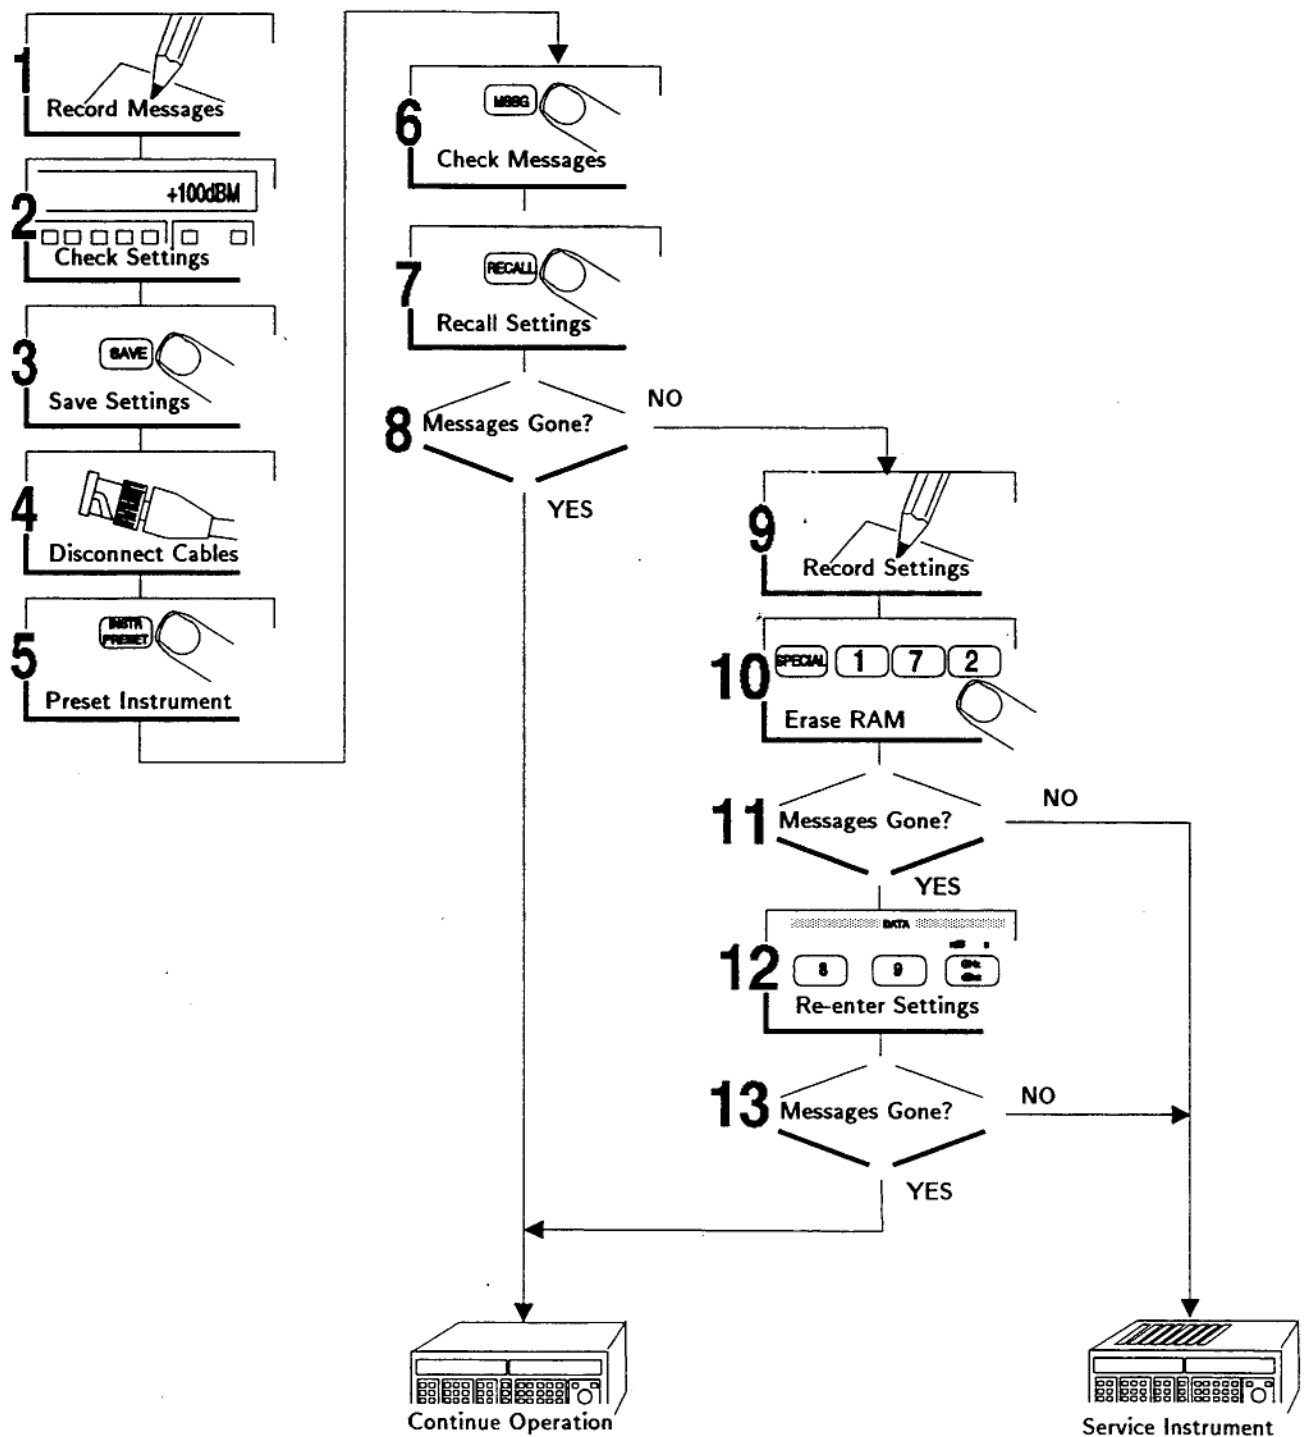

Figure 7-1. Corrective Action for Error Messages
Hardware Failure 1	A communications discriminator failure has been detected at power up, or detected as a result of a self-calibration or self-test. Refer to figure 7-1 for corrective action.
Hardware Failure 2	A VCO failure has been detected at power up, or detected as a result of a self-calibration or self-test. Refer to figure 7-1 for corrective action.
Hardware Failure 3	A Fractional-N failure has been detected at power up, or detected as a result of a self-calibration or self-test. Refer to figure 7-1 for corrective action.
Hardware Failure 4	A modulation distribution failure has been detected at power up, or detected as a result of a self-calibration or self-test. Refer to figure 7-1 for corrective action.
Hardware Failure 5	An ALC failure has been detected at power up, or detected as a result of a self-calibration or self-test. Refer to figure 7-1 for corrective action.
Hardware Failure 6	An attenuator failure has been detected at power up, or detected as a result of a self-calibration or self-test. Refer to figure 7-1 for corrective action.
Hardware Failure 7	An audio source failure has been detected at power up, or detected as a result of a self-calibration or self-test. Refer to figure 7-1 for corrective action.
Hardware Failure 8	A reference failure has been detected at power up, or detected as a result of a self-calibration or self-test. Refer to figure 7-1 for corrective action.
Hardware Failure 9	A doubler failure has been detected at power up, or detected as a result of a self-calibration or self-test. Refer to figure 7-1 for corrective action.
Hardware Failure 13	A front panel failure has been detected at power up, or detected as a result of a self-calibration or self-test. Refer to figure 7-1 for corrective action.
Hardware Failure 14	A power supply failure has been detected at power up, or detected as a result of a self-calibration or self-test. Refer to figure 7-1 for corrective action.
Hardware Failure 15	An I/O board failure has been detected at power up, or detected as a result of a self-calibration or self-test. Refer to figure 7-1 for corrective action.
Hardware Failure 16	A controller failure has been detected at power up, or detected as a result of a self-calibration or self-test. Refer to figure 7-1 for corrective action.
Hardware Failure 18	A frequency counter failure has been detected at power up. Refer to figure 7-1 for corrective action. Unit should have option 011. If unit was turned off for a long period (ex: 30 days), the instrument will need recalibrated. For option 011, a cable must be attached on the front panel.
Hardware Failure 21	A communications discriminator out-of-lock (OOL) condition exists. Refer to figure 7-1 for corrective action.
Hardware Failure 23	A Fractional-N (NF) phase-locked-loop (PLL) out-of-lock (OOL) condition exists. Refer to figure 7-1 for corrective action.
Hardware Failure 24	A VCO frequency-locked-loop (FLL) out-of-lock (OOL) condition exists. Refer to figure 7-1 for corrective action.
Hardware Failure 25	A VCO phase-locked-loop (PLL) out-of-lock (OOL) condition exists. Refer to figure 7-1 for corrective action.
Hardware Failure 26	A fast controller failure has been detected at power up, or detected as a result of a self-calibration or self-test. Refer to figure 7-1 for corrective action.
Hardware Failure 27	An audio source out-of-lock (OOL) condition exists. Refer to figure 7-1 for corrective action.
Hardware Failure 28	A reference out-of-lock (OOL) condition exists. Refer to figure 7-1 for corrective action.
Hardware Failure 31	A ROM failure has been detected at power up, or detected as a result of a self-calibration or self-test. Refer to figure 7-1 for corrective action.
Hardware Failure 32	A ROM failure has been detected at power up, or detected as a result of a self-calibration or self-test. Refer to figure 7-1 for corrective action.
Hardware Failure 33	A ROM failure has been detected at power up, or detected as a result of a self-calibration or self-test. Refer to figure 7-1 for corrective action.
Hardware Failure 34	A ROM failure has been detected at power up, or detected as a result of a self-calibration or self-test. Refer to figure 7-1 for corrective action. A voltmeter failure has been detected at power up, or detected as a result of a self-calibration or self-test. Refer to figure 7-1 for corrective action. A RAM failure has been detected at power up, or detected as a result of a self-calibration or self-test. Refer to figure 7-1 for corrective action.
Calibration Error 1	A condition occurred where invalid level calibration data resides in either the Output or the Attenuator modules. Follow the external calibration procedures outlined in figure 7-1 . At some time during the calibration or self-test, a condition occurred where some hardware was unable to be calibrated. Fix the hardware and re-calibrate. Refer to figure 7-1 for corrective action. This error message will always be accompanied by other error messages. A sensor indicates that inside temperature has varied $\pm 10^{\circ}$ Centigrade ($\pm 18^{\circ}$ Fahrenheit) from where the temperature was when the instrument was last calibrated. A re-calibration by activating Special Function 171 may be necessary for the instrument to maintain its specifications.
User Memory Cleared	A memory failure has been detected, all battery backup memory is lost. Refer to figure 7-1 for corrective action. A reverse power condition was detected at the RF Output. (Disconnect the affected output from any external equipment and re-enter the key sequence that originally resulted in the error. If an error is still detected by the instrument, a reverse power problem still exists.)
Transient Error 8	A transient reference out-of-lock (OOL) condition occurred. Refer to figure 7-1 for corrective action.
Transient Error 9	A transient doubler out-of-lock (OOL) condition occurred. Refer to figure 7-1 for corrective action.